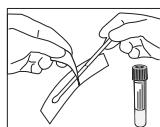

Fig. 1
1. Open the kit package and remove the test tube. Take the swab out of its pouch and collect the specimen from the patient (Fig. 1). In order to prevent the risk of contamination, make sure that the swab tip comes into contact only with the sampling site. **Note: valid for kit version.**